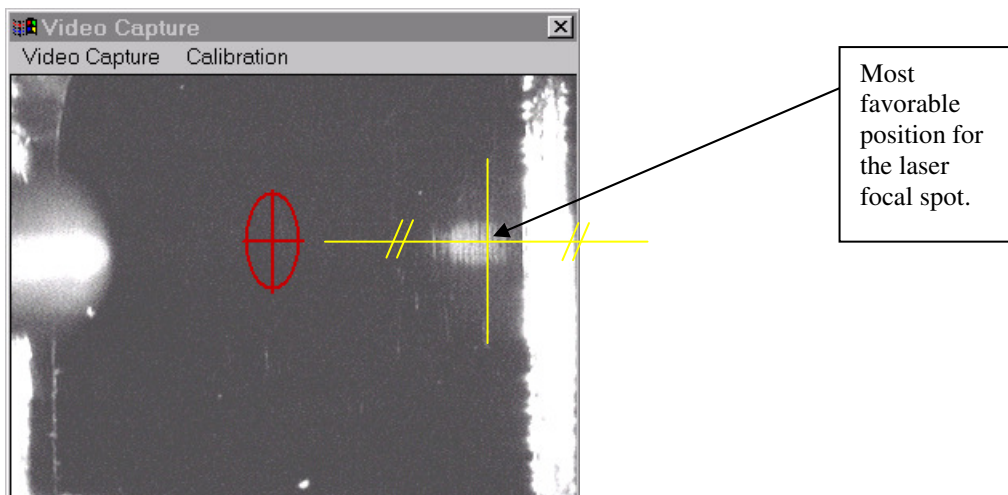
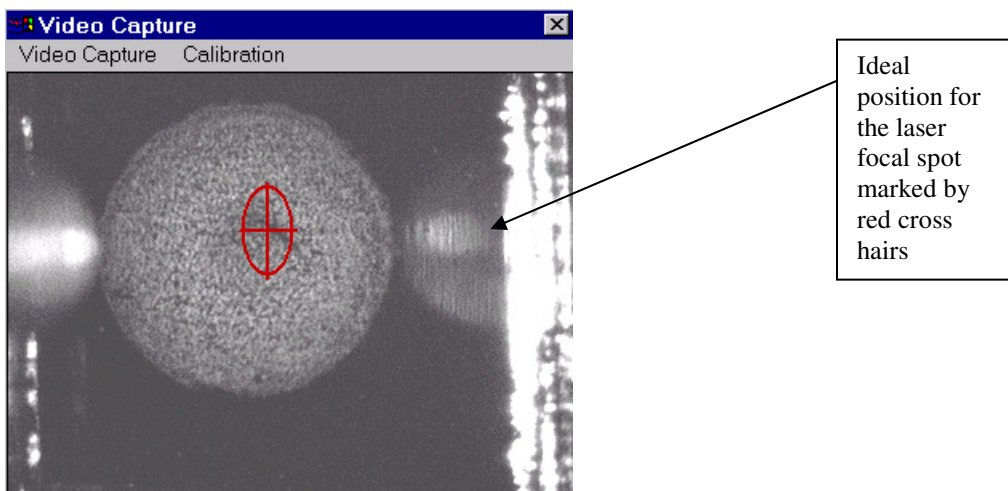
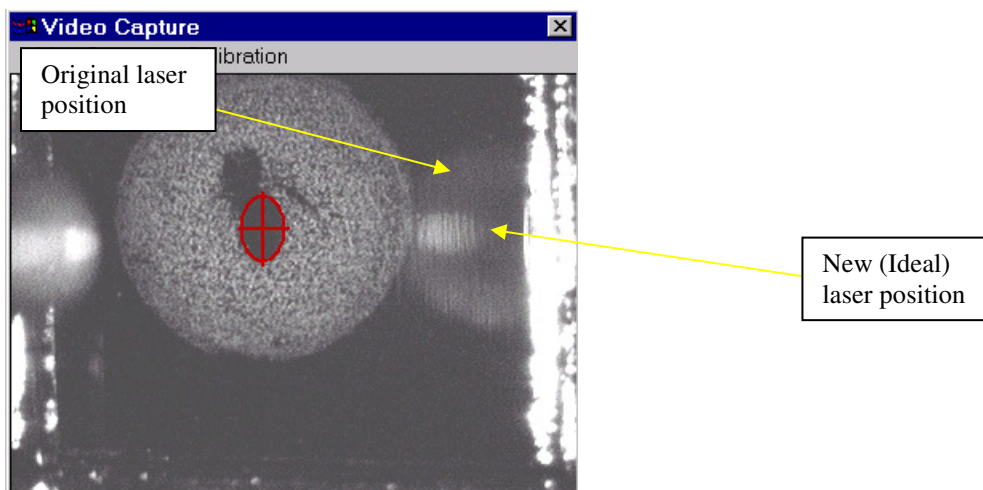

Figure 8.3 Ideal Laser Positioning
Figure 8.4 Image of the Matrix Crystals
Figure 8.7 Good Alignment of the Laser Position
The ideal position for the laser focal spot on the target surface plane is at the middle of the imaginary line that connects the image of the capillary extension tip and the image of its reflection (see Fig. 8.3). In order to determine the real position of each sample spot, move the target plate to a position where a matrix was deposited (see Figure 8.4).
Step 2. Switch the laser to the “ON” mode and turn the spiral/raster motion to the “OFF” position. Set the maximum laser through Target Software so that the matrix crystal’s evaporation (at the place where the laser beam is focused) can be seen (Figure 8.4).
By comparing the location of the ablation hole with the ideal position shown by the red cross-hairs, the user can see that the laser focus is close to its ideal position. However, the laser post is slightly higher and to the left. The deviation of the focal points shown in Figures 8.4 and 8.5 are acceptable, especially with the PDF activated, but the source sensitivity can be improved by fine-tuning.
The user needs to look at the video capture screen for the corresponding motion of the laser focal spot. The objective is to move that spot as close as possible to its ideal position which lies at the middle of the imaginary line that connects the capillary extension tip (see Fig. 8.3). The position in Fig. 8.7 below shows a good alignment.